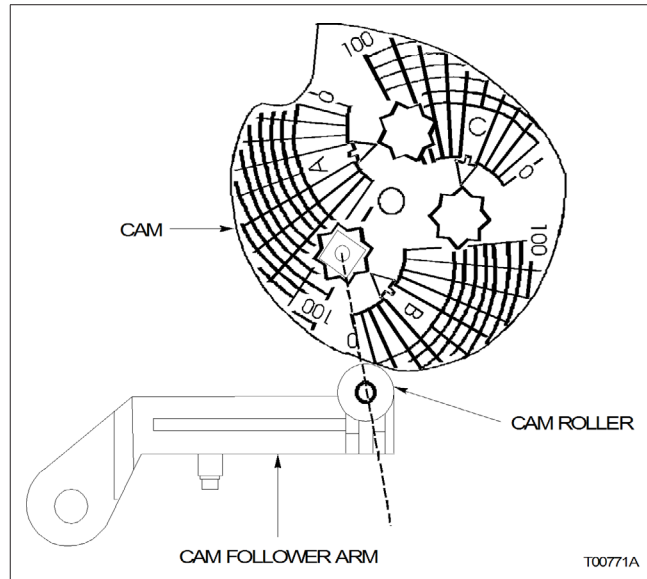

Figure 3-8. Cam Roller Alignment
3. Adjust the connecting linkage so that the zero radial line on the cam intersects the center of the cam roller when the actuator is at its zero position (Fig. 3-8).